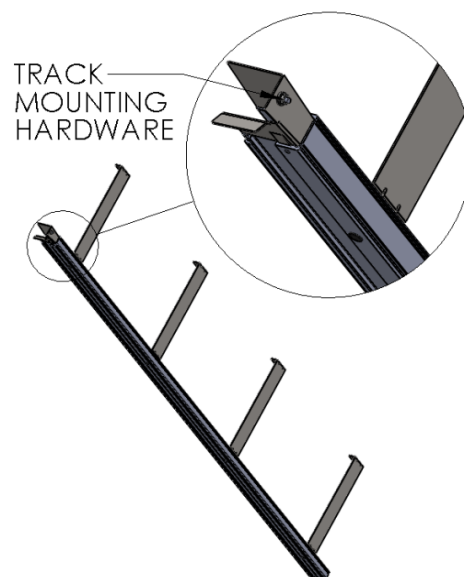

Figure 8 TRACK MOUNTING HARDWARE
1. Starting with either left or right side, locate the Track Mounting Hardware in the Track Transition Bracket. (Figure 8 TRACK MOUNTING HARDWARE)